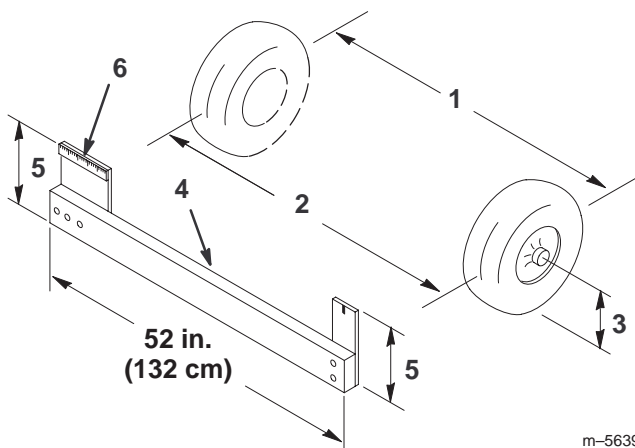

Figure 35
2. Measure the distance between both of the front tires at the axle height at both the front and rear of the front tires (Fig. 35). A fixture or alignment gauge is needed for the rear measurement of the front tires at axle height. Use the same fixture or alignment gauge to accurately measure the front of the front tires at axle height (Fig. 35).